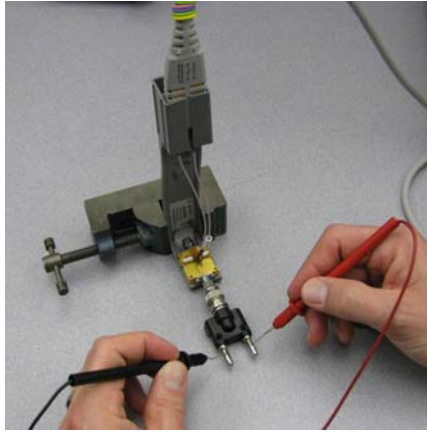

Figure 96 Measuring the Differential Input Resistance of Solder-In Probe Head
Figure 96 shows the correct setup for measuring the differential input resistance for the solder-in probe head.
- 1 Connect the BNC to SMA adapter and BNC to Banana Plug adapters as shown in **Figure 96** on page 124.
- 4 Connect the ZIF or solder-in probe head to the probe amp and insert it into the PV fixture as shown **Figure 96**.
- 6 As shown in **Figure 96**, measure the DC input resistance between the banana plugs. Since one tip wire is connected to the signal line and the other tip is connected to the PV fixture ground, this is a measurement of the differential input resistance. It should be $100\text{ k}\Omega \pm 2\%$ (98 to $102\text{ k}\Omega$).